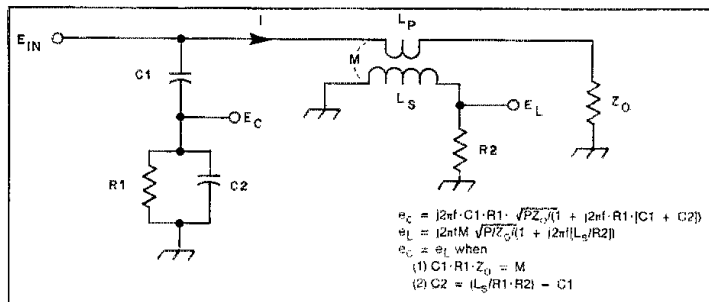

Fig. 4 — The frequency-compensated voltage (E_C) and current (E_L) sensors used in the impedance indicator.
A bit of ingenuity was required to produce the circuit of Fig. 4. The voltage sampler (left) and the current sampler (right) give equal outputs when the equalities shown, (1) and (2), are satisfied. When the denominators of the sample-voltage equations (E_C and E_L) have an absolute value of about 2 at the lowest design frequency, the output flattens rapidly with increasing frequency. My goal was to have the output only about 25% higher at 29.7 MHz than at 3.5 MHz.
Variable capacitors C1 and C3 may be compression-mica or glass-piston types if the power level in use is 200 watts or less. Although the IMI works well with a fixed capacitor for C2 as shown in Fig. 9, there is some advantage in making C2 variable. As may be noted from the equations in Fig. 4, (conditions 1 and 2), practically every factor in the impedance-indicator section of the IMI may be balanced if C1 and C2 are both variable. I used 680-pF ceramic capacitors for C5 through C10. This value was used mainly because they were available; any value up to 0.001 μ F is fine.